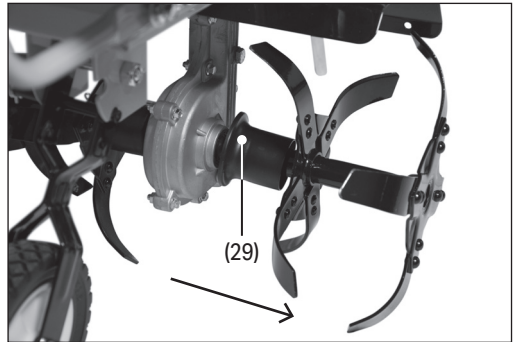

Fig. 25
- b. Slide the tines and axle cover (29) away from each side of the tine assembly (Fig. 25).